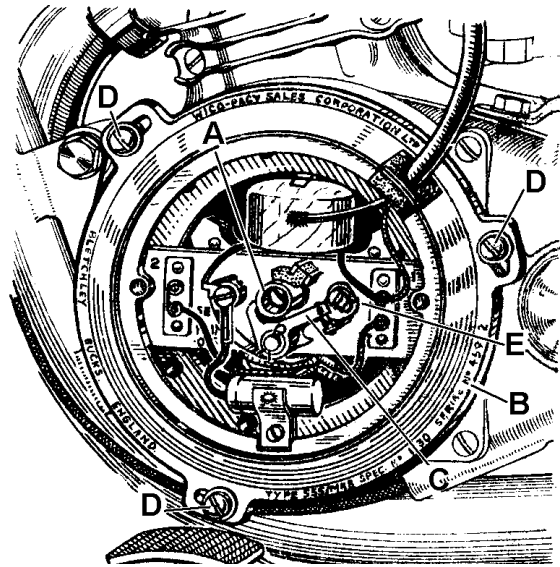
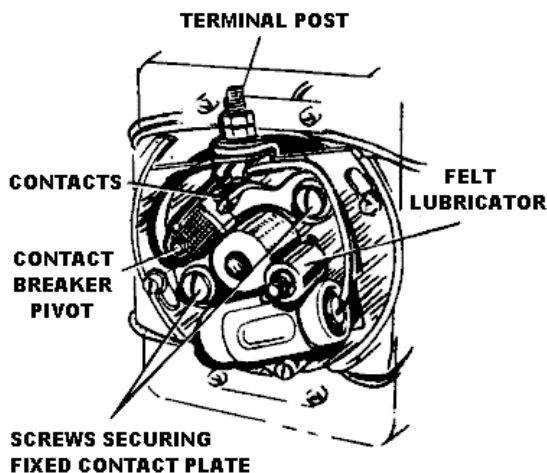

Fig. D1. *Wipac Equipment.*
Fig. D1a. *Lucas Equipment*
Access to the contact breaker mechanism is obtained by removing the small cap in the centre of the generator cover. On early Wipac models this cap is retained by a spring clip as shown in Fig. D1, but on all other models two small retaining screws are used.
If the gap is incorrect the points must be re-adjusted. Slacken the screws securing the fixed contact plate (E) Fig. D1, for Wipac, and Fig. D1a for Lucas equipment. Move the plate until the contact gap is correct then tighten the securing screws and re-check the gap. Early Wipac models have an eccentric headed screw at (F) Fig. D1, to facilitate movement of the plate, but on all other models the plate is simply pushed backwards or forwards.
If the setting is not correct the three screws in slotted holes (D) Fig. D1, should be slackened, thus permitting the complete contact breaker back plate to be rotated until the correct setting is obtained. Rotating the plate in a clockwise direction advances the ignition. On Lucas models the contact breaker back plate is retained by four screws in slotted holes as shown in Fig. D1a, but the procedure is identical.